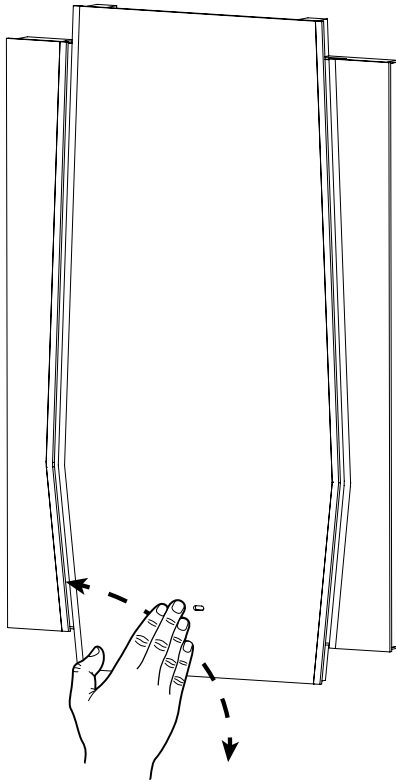

Fig 3. - Operation
1. Wave hand past the sensor switch located on the mirror face, *see Fig. 3*.